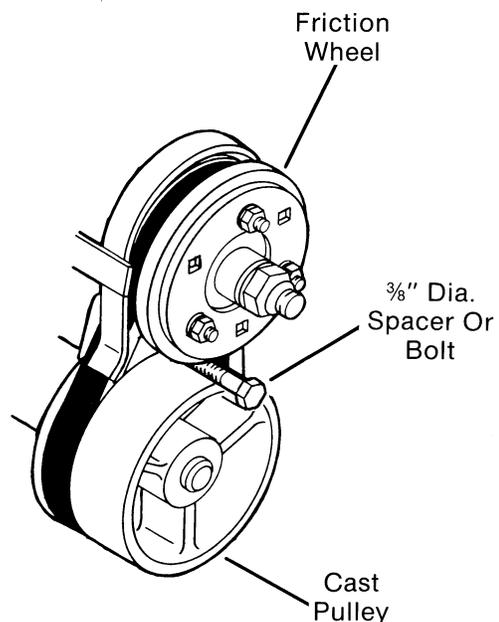

FIG. 20
- B. Remove friction wheel by removing three nut and bolt assemblies securing it to drive hub. (Fig. 20)
- F. Install a spacer between friction wheel and cast pulley. Use approximately a $\frac{3}{8}$ " dia. spacer or bolt to achieve $\frac{1}{4}$ " gap. (Fig. 20)